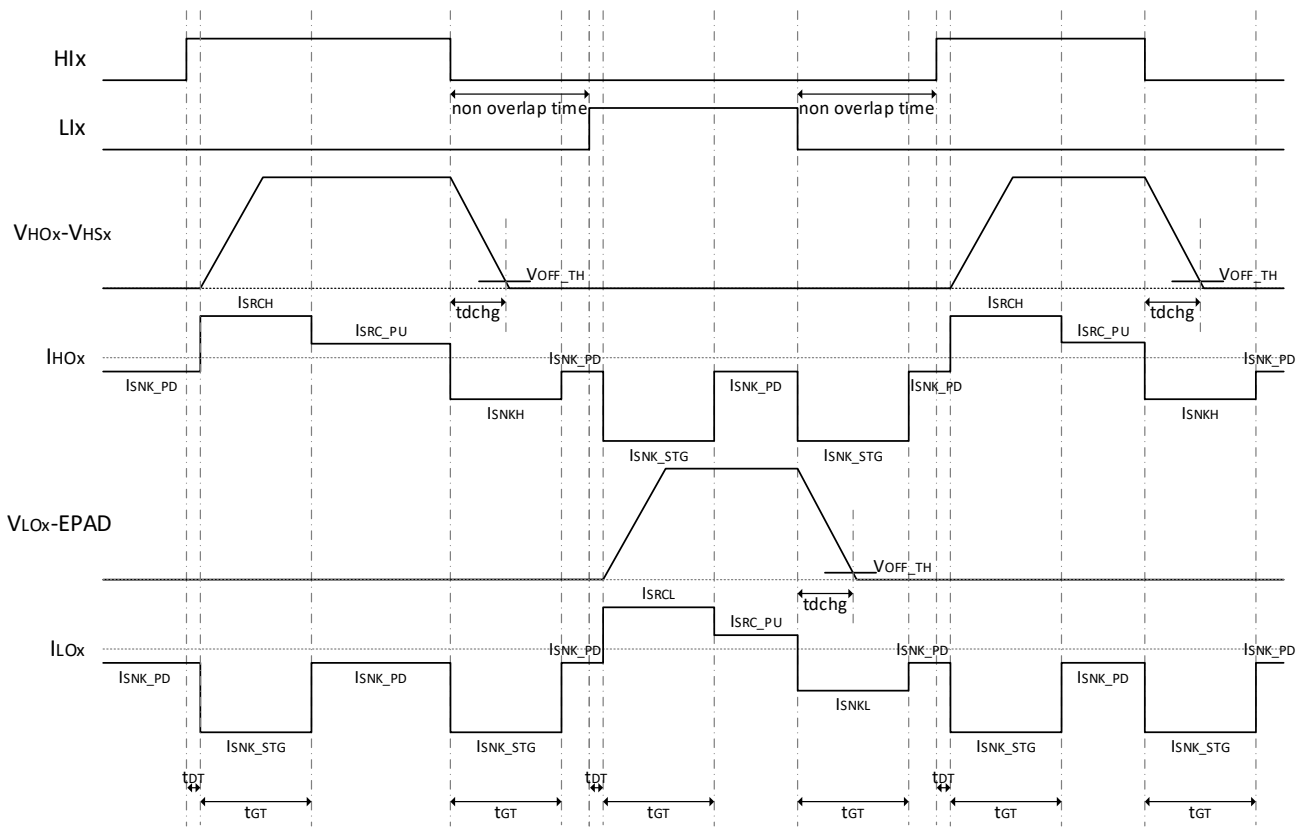

Figure 6.4-5 Gate Drive Timing Diagram with DIS\_SADT=1b if the HI/LI Inserted Dead Time is Longer than Maximum Gate Transition Time
**Note:** The inserted dead time should be shorter than the tGT setting in order to properly drive the MOSFETs. The duration of driver peak source/sink current is terminated after reaching the full tGT duration. Refer to Figure 6.4-5. And the inserted dead time must be longer than the MOSFET discharge time “tdchg” to avoid the shoot through current of the half-bridge MOSFET.
Figure 6.4-5 shows the gate drive timing diagram with DIS\_SADT=1b if the HIx/LIx (x=A,B,C) inserted dead time is longer than maximum gate transition time (tGT). This case means: